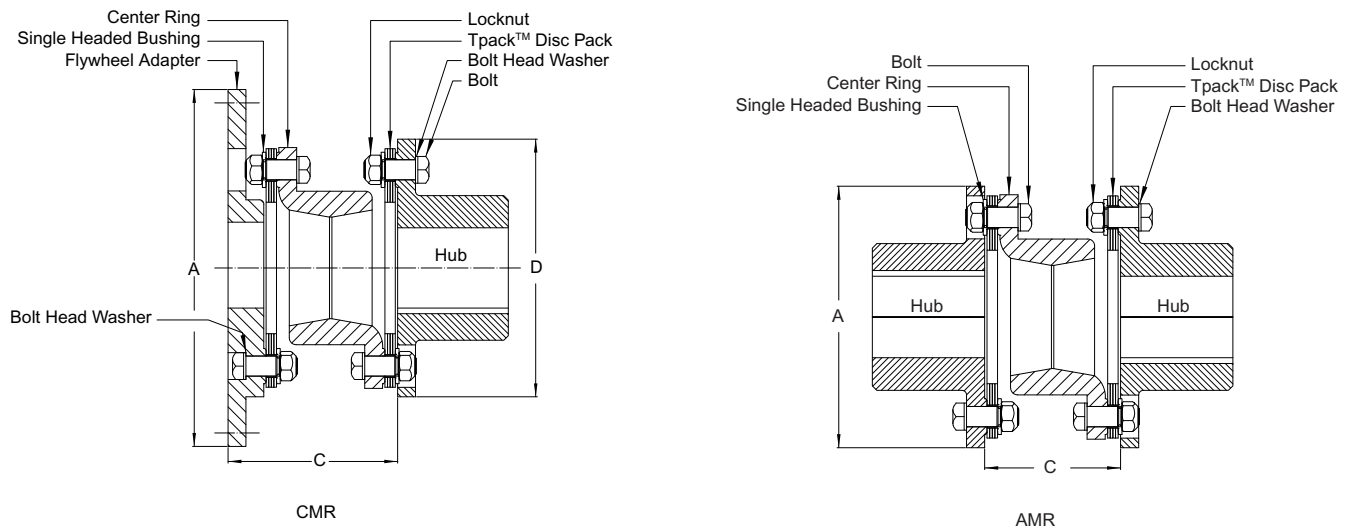

Figure 3 - Thomas CMR and AMR TPack Cross Sectional View of Components
- 2.6. For ATEX requirements the guard must have a minimum of 12.7 mm (1/2 inch) radial clearance to the coupling outside diameter "A" (see Figure 3 and Table 3) and allow for proper ventilation.